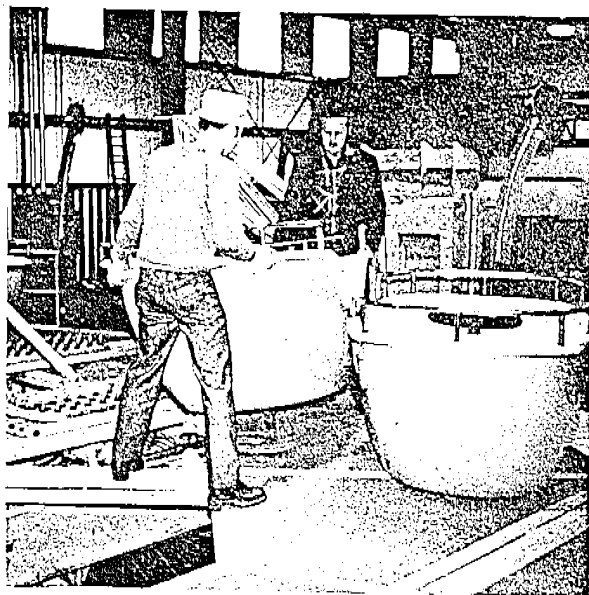

Fig. 37
- b. Lift the removable cars from their storage sockets and install them in their operation sockets on the wing tips. (Figs. 37 & 38)